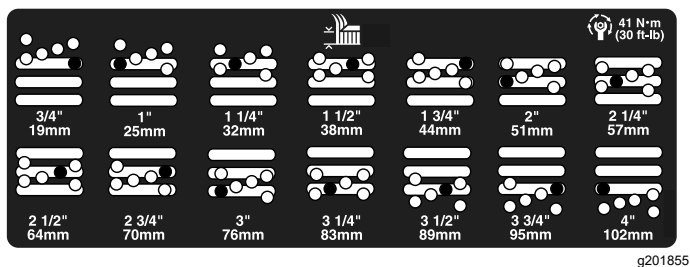

Figure 26
5. Move the chamber to the desired height of cut and install a spacer into the designated height-of-cut hole and slot (Figure 26).